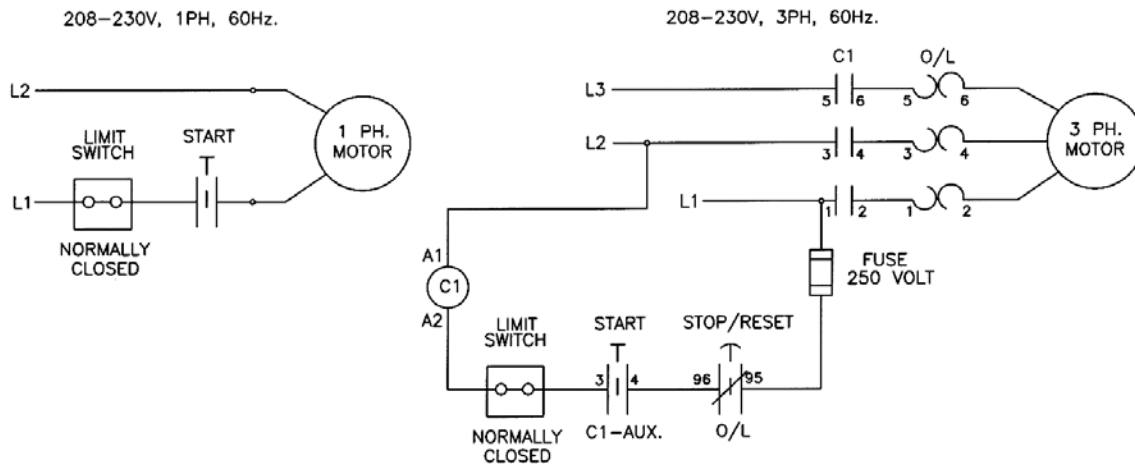

Figure 8 – Electrical Diagram
2. Bolt power pack to the mounting bracket on the power side tower using four (4) 5/16"-18UNC x 1"LG. hex head bolts, four (4) 5/16" ID lock washers, four (4) 5/16" ID flat washers and four (4) 5/16"-18UNC hex nuts. Do not tighten.
4. A **certified electrician** must connect the 230Volt/1Ph power to the motor. The electrical diagram is provided, refer to **Figure 8**.